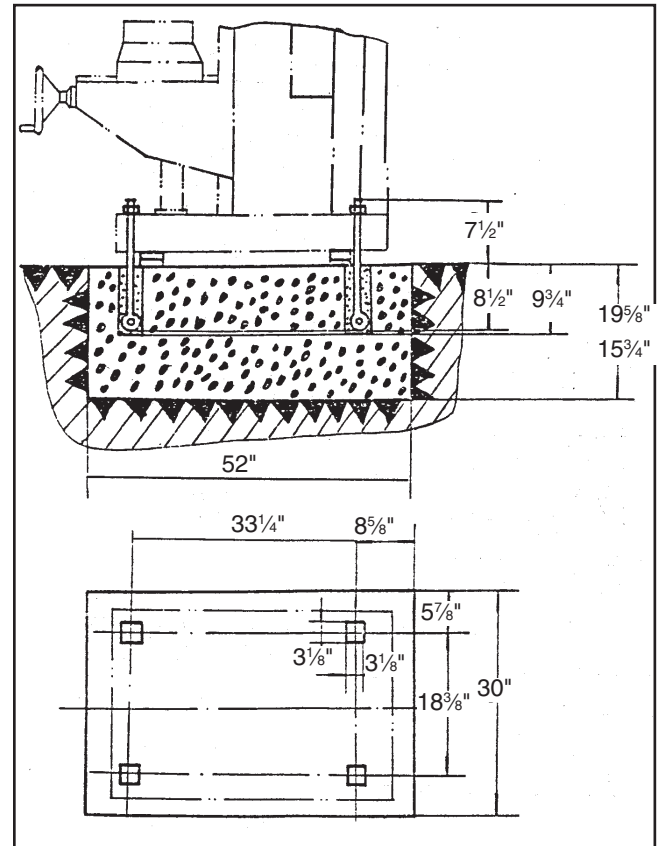

Figure 10. Foundation plan for machine installation (all units listed in mm).
3. Use the mounting holes in the milling machine base to act as a guide, or layout holes as shown in **Figure 10**, for drilling into your floor, and drill approximately $3\frac{1}{2}$ " deep into the concrete floor.